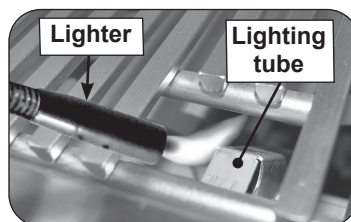

Fig. 37-2 Manual lighting via lighting tube
2. Insert either a burning long-barrel butane lighter or a burning long-stem match through the cooking grid opening to the top of the lighting tube (see Fig. 37-2). For back burners, power burners, or infrared burners, hold the flame against the surface of the back burner/power burner/infrared burner.